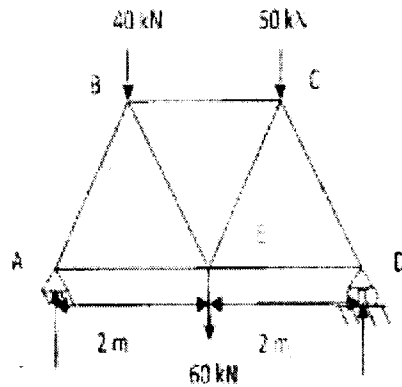

Fig. 3
- c) Determine the forces in all member of the truss shown in fig. 3 and indicate the magnitude and nature of forces on the diagram of the truss. All inclined members are at  $60^\circ$  to horizontal and length of each member is 2 m.